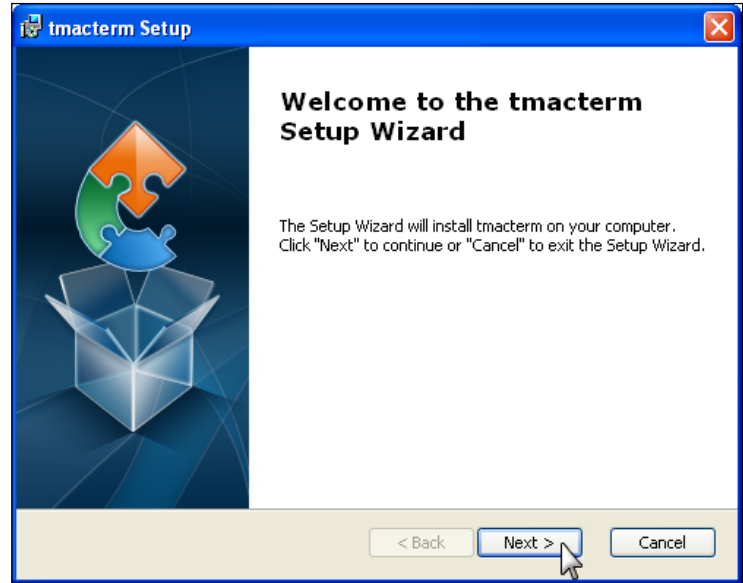

Fig. 31
3. The DTMAC term Setup Wizard launches. Click *Next* (Fig. 31).